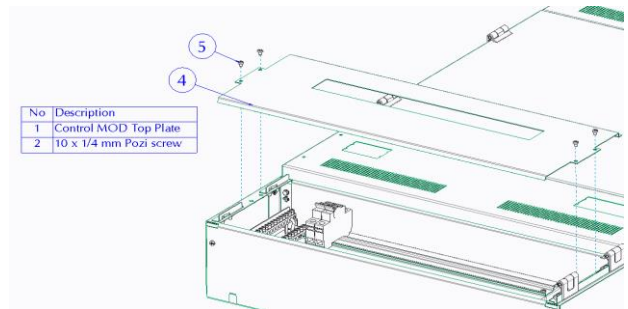

Fig. 4
- When the Add-on has been attached to the main panelboard, re-place the front shield by referring to Fig. 4.